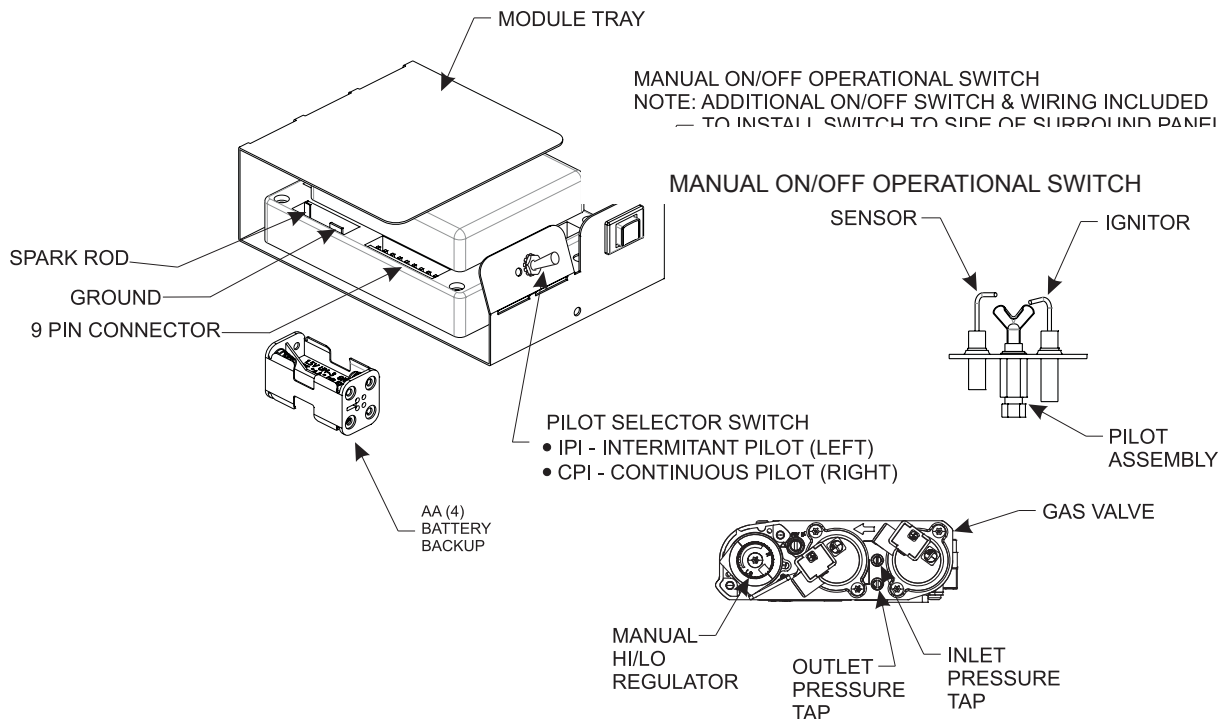

Figure 73
**NOTICE:** A small toggle switch is located on the front of the module tray that is used to switch from IPI (left) to the CPI (right). See **Figure 73**.
3. The gas valve has inlet and outlet pressure taps as shown in **Figure 73**. Refer to page 13 for gas pressure requirements.
**NOTICE:** The gas control has a manual HI/LO flame adjustment knob (regulator) that allows you to increase or decrease the height of the burner flame. See **Figure 73**. Rotate the HI/LO knob counterclockwise to "HI" to increase the flame height, and clockwise to "LO" to decrease the flame height.
To connect the remote receiver to the fireplace, first disconnect the ON/OFF switch wires from the white and green wire connectors and connect the wires from the remote receiver to the green and white wire connectors. See **Figure 73**. Follow the instructions included with the remote control for programming and other operational information.